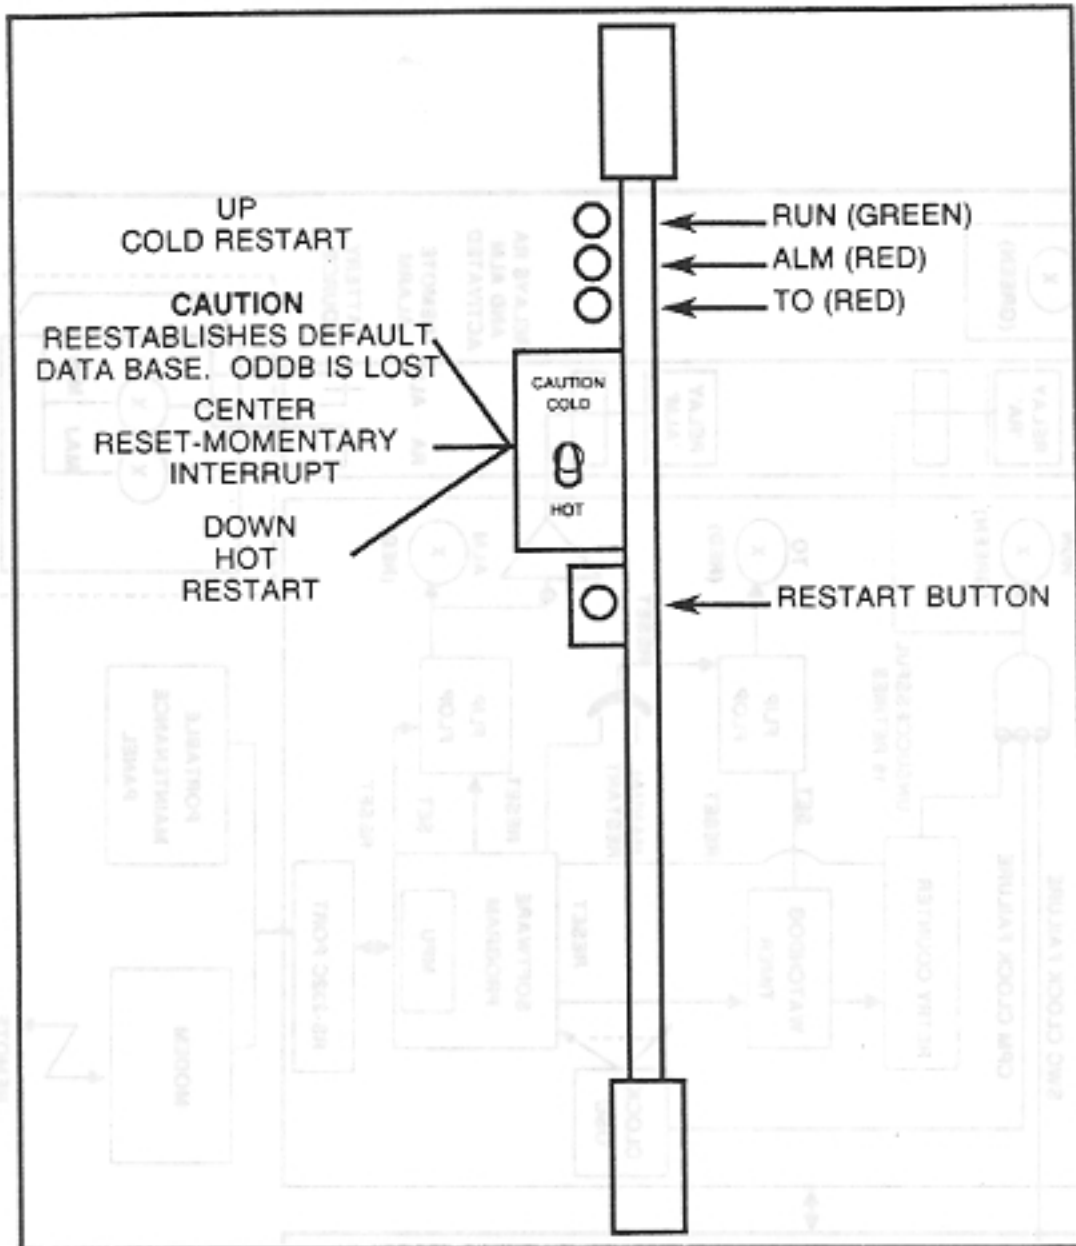

Figure 7.4 Restart Controls and Visual Indicators on the CPM Card
The CPM card has a manual reset button, a restart COLD/HOT switch, and three LED lamps for indication of system status. See Figure 7.4.
7.2.1 To activate the RAM, the CPM must be initialized. Initialization resets program controls and RAM operation memory. The system can be initialized in three ways. The CPM card, in card slot 20, has a three-position restart toggle switch. See Figure 7.4. The three positions are center (normal) for RESET restart, up for COLD restart, and down for HOT restart. Below the toggle switch is a small restart momentary contact pushbutton. The toggle position determines which restart is initiated when the restart button is pushed.